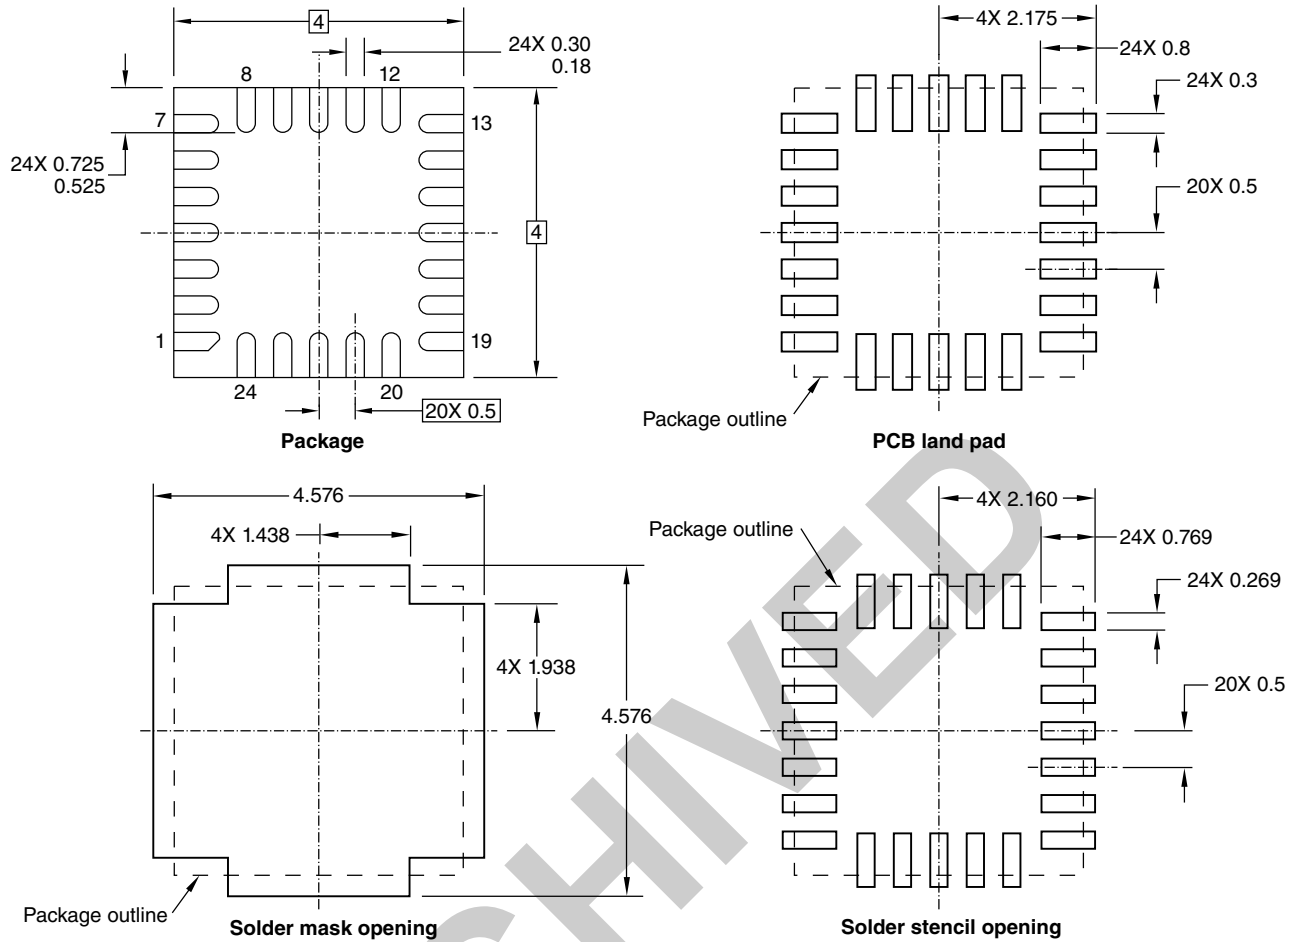

Figure 18. Footprint
The following recommendations are meant to serve as general guidelines for realizing an effective PCB layout. See Figure 18 for component PCB footprint dimensions.
- The PCB land pattern should be designed with Non-Solder Mask Defined (NSMD) as shown in Figure 18.